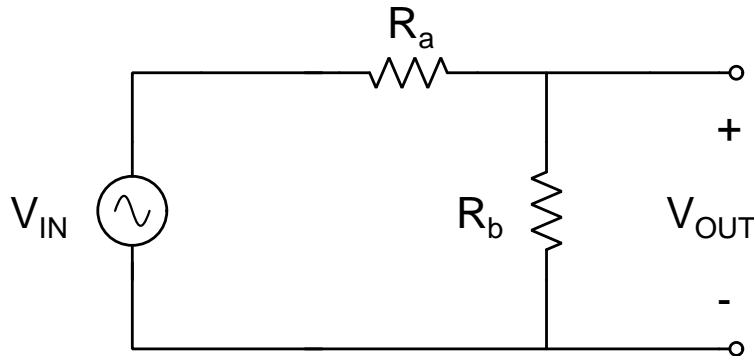
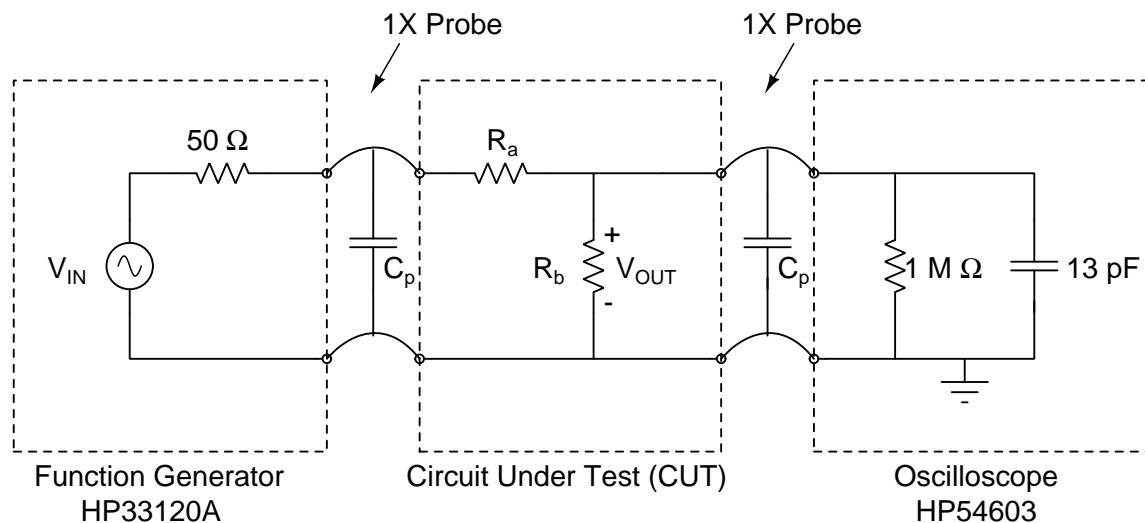

Figure 1: The circuit under test (CUT) is an ideal resistor divider circuit.
Figure 2: Measurement set-up for the resistor divider circuit.
Introduction In this lab you are to determine the voltage ratio, V_{OUT}/V_{IN} , produced by the voltage divider with resistors R_a and R_b shown in Figure 1.
This lab illustrates that the actual values of the components, and the impedances associated with the test equipment and cables, must be considered when determining the actual value of the voltage across a circuit element. All voltage sources, including batteries, have a finite source impedance. All measurement equipment, including oscilloscopes and digital voltmeters (DVMs), have a non-infinite input impedance that presents a load to the circuit. Cables that connect the circuit to the test equipment introduce additional impedances in the circuit. The schematic showing the circuit under test (CUT) connected to a function generator and oscilloscope is shown in Figure 2.
1. Use the Tenma 72-1025 LCR Meter to measure the capacitance of your 1X probes at a frequency of 1kHz. Make sure the capacitance meter is set to measure capacitance with series resistance. Also measure the Dissipation Factor (DF) of the probes at a frequency of 1kHz. Record these values in your notebook.
4. For each of the three pairs of resistors, place two resistors with the same value on the breadboard to make a series circuit as shown in Figure 1. If the resistors have slightly different values, make sure you keep track of which resistor is which.
9. Set the FG to generate a 1kHz sinusoidal signal with peak voltage $V_{IN} = 1V$. Verify both the frequency and peak voltage using the scope then connect the FG and scope to the resistors as shown in **Figure 2**.
For the voltage divider circuit, an estimate of the error introduced by the measurement apparatus can be obtained by comparing the values of V_{OUT} from an analysis of the circuit in Figure 1 with the values of V_{OUT} from an analysis of the circuit in Figure 2.
1. Derive an equation $V_{OUT1}(R)$ expressing the output voltage V_{OUT} as a function of the resistance R for the circuit of **Figure 1**. Do not include in the calculation the capacitance of the 1X probes, the output resistance of the FG and the input impedance of the scope.
2. Derive an equation $V_{OUT2}(R)$ expressing the output voltage V_{OUT} as a function of the resistance R for the circuit of **Figure 2**. Include in the calculation the capacitance of the 1X probes, the output resistance of the FG and the input impedance of the scope.
Use NGSpice to simulate the expected output voltage V_{OUT} as a function of the resistance R for the circuit of **Figure 2**. Include in the simulation the capacitance of the 1X probes, the output resistance of the FG and the input impedance of the scope. A Matlab[®] template file (http://web.eece.maine.edu/kotecki/ECE214/docs/Matlab/ECE214_2018_Lab1_B.m) and an hspc simulation file (http://web.eece.maine.edu/kotecki/ECE214/docs/ngspice/ECE214_2018_Lab1.hspc) are available on the course website.